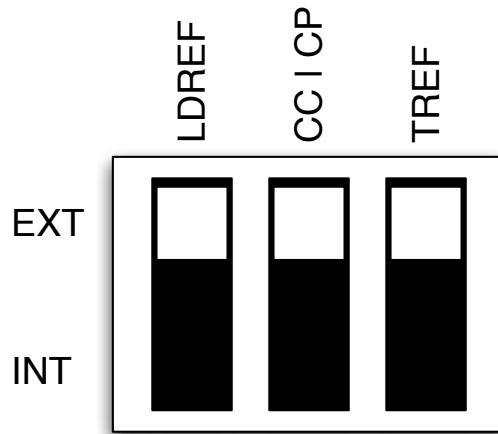

Figure 1: DIP switches on LDTC0520. Note: these labels are only visible when the driver cover is on.
3. Adjust ILIM (current limit) trimpot to set the maximum allowable current. Measure using the adjacent test point, shown in Figure 1, (transfer function = 250mA/V). Set ILIM according to the desired SLED indicated in the table below.